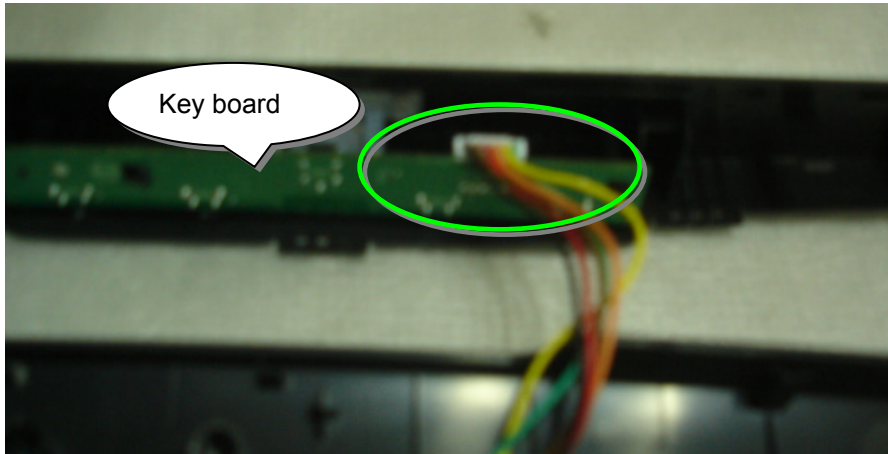

Fig 4
1. Remove the front bezel, disconnect the connector remarked in green (Fig 4,5)